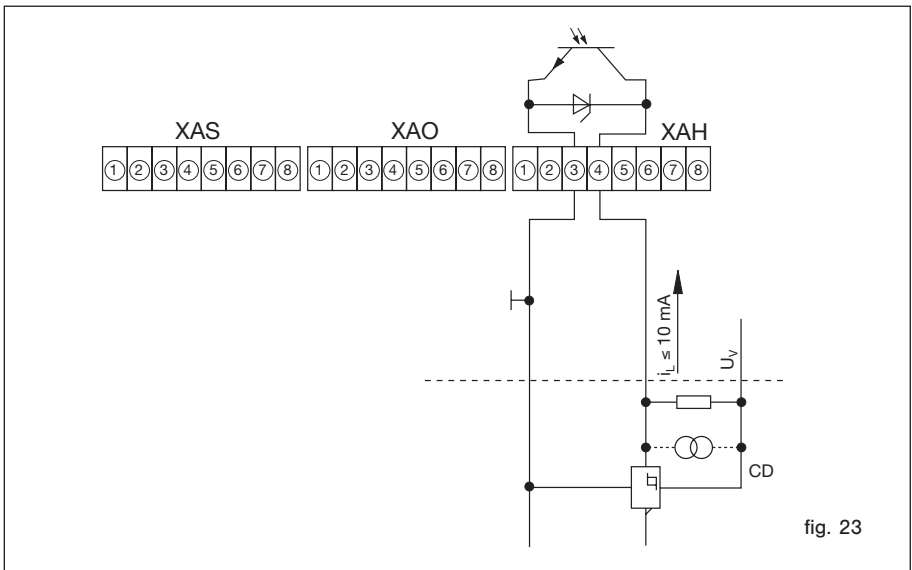

fig. 23
**Electronic signal processing (fig. 23)**